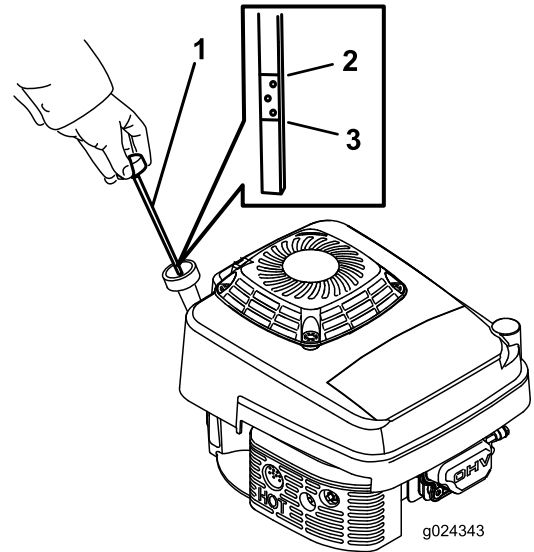

Figure 8
Before each use, ensure that the oil level is between the Add and the Full marks on the dipstick (Figure 8).
2. Clean around the dipstick (Figure 8).